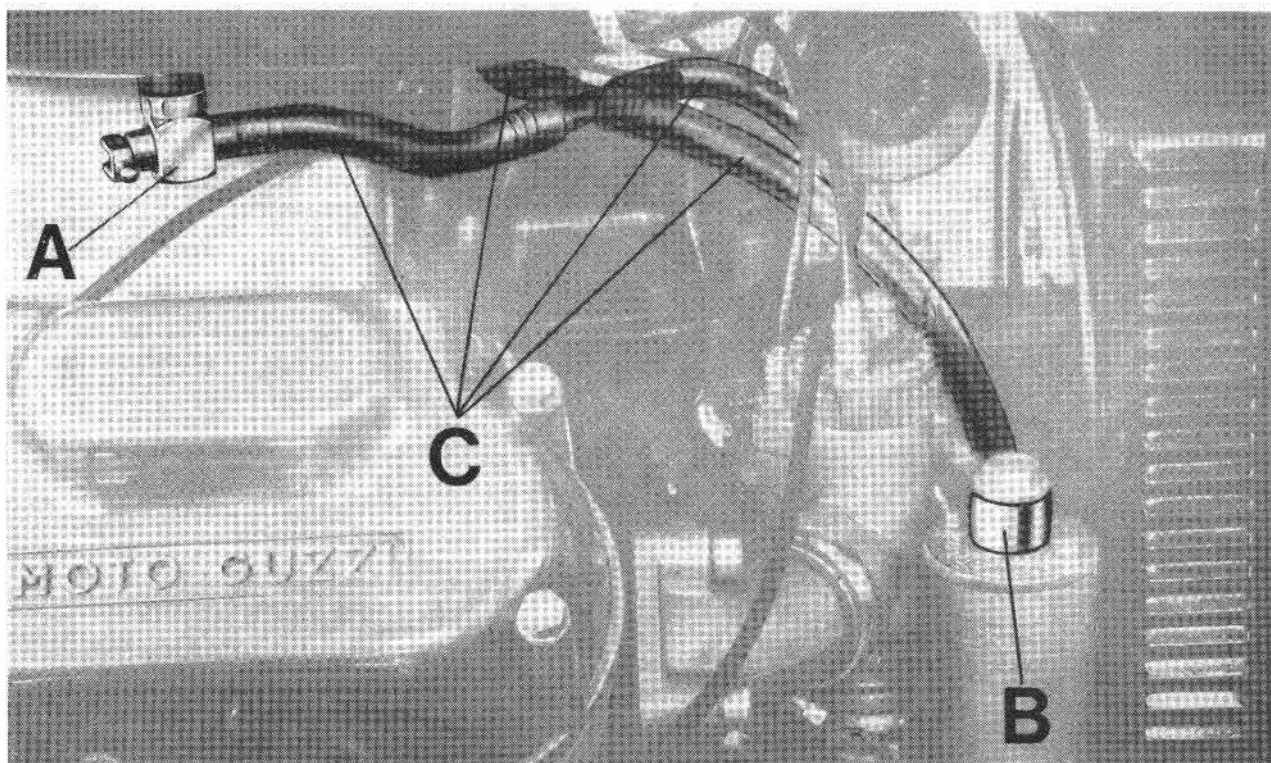

Fig. 65
Engine is gravity fed by gasoline (98/100 NO Research Method). Gasoline coming from tank, through feed cocks (A) enters fuel lines (C) conveying same to four-way adapter and from here to carburetor filters (B). See Fig. 65.
veying same to four-way adapter and from here to carburetor filters (B). See Fig. 65.